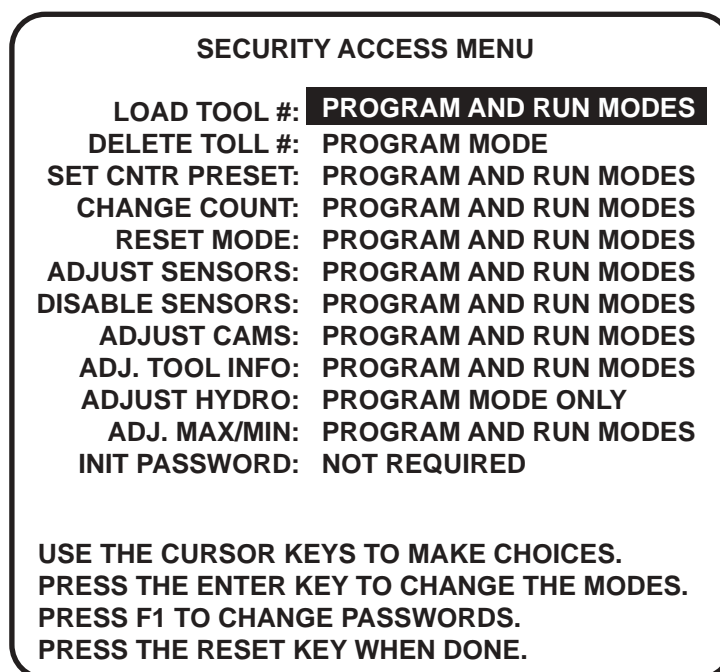

Figure 4-17. Security Access default settings
Use the Security access choice in the Initialization menu to prevent unauthorized access to SmartPAC Hydraulic settings. For most items shown in Figure 4-17, Pg. 78 you can choose the level of security that meets your needs:
2. The display appears similar to Fig. 4-17, Pg. 78. Press **F1**.